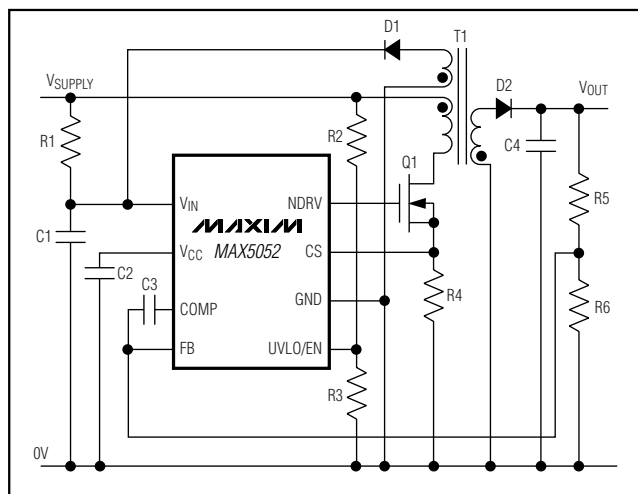
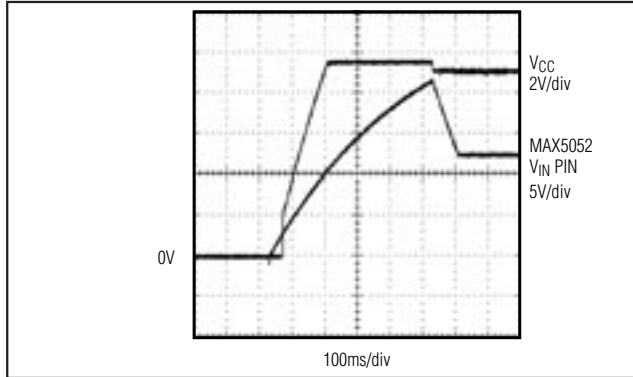

Figure 1. Nonisolated Power Supply with Programmable Input-Supply Start Voltage
Figure 2.  $V_{IN}$  and  $V_{CC}$  During Startup when Using the MAX5052 in Bootstrapped Mode (Figure 1)
**Note 3:** The MAX5052 is intended for use in universal input power supplies. The internal clamp circuit is used to prevent the bootstrap capacitor (C1 in Figure 1) from charging to a voltage beyond the absolute maximum rating of the device when EN/UVLO is low. The maximum current to  $V_{IN}$  (hence to clamp) when UVLO is low (device in shutdown) must be externally limited to 2mA, max. Clamp currents higher than 2mA may result in clamp voltage higher than 30V, thus exceeding the absolute maximum rating for  $V_{IN}$ . For the MAX5053, do not exceed the 24V maximum operating voltage of the device.
Power supplies designed with the MAX5052 use a high-value startup resistor, R1, that charges a reservoir capacitor, C1 (see Figure 1). During this initial period, while the voltage is less than the internal bootstrap UVLO threshold, the device typically consumes only 45μA of quiescent current. This low startup current and the large bootstrap UVLO hysteresis helps to minimize
Use this UVLO function to program the input-supply start voltage. For example, a reasonable start voltage for a 36V to 72V telecom range might be set at 34V. Calculate the divider resistor values, R2 and R3 (see Figure 1) by using the following formulas:
Normally  $V_{IN}$  is derived from a tertiary winding of the transformer. However, at startup there is no energy delivered through the transformer, hence, a special bootstrap sequence is required. Figure 2 shows the voltages on  $V_{IN}$  and  $V_{CC}$  during startup. Initially, both  $V_{IN}$  and  $V_{CC}$  are 0V. After the line voltage is applied, C1 charges through the startup resistor, R1, to an intermediate voltage. At this point, the internal regulator begins charging C2 (see Figure 1). The MAX5052 uses only 45μA of the current supplied by R1, and the remaining input current charges C1 and C2. The charging of C2 stops when the  $V_{CC}$  voltage reaches approximately 9.5V, while the voltage across C1 continues rising until it reaches the wake-up level of 21.6V. Once  $V_{IN}$  exceeds the bootstrap UVLO threshold, NDRV begins switching the MOSFET and transfers energy to the secondary and tertiary outputs. If the voltage on the tertiary output builds to higher than 9.9V (the bootstrap UVLO lower threshold), then startup has been accomplished and sustained operation commences.
The  $V_{IN}$  bypass capacitor,  $C1$ , supplies current immediately after wake up (see Figure 1). The size of  $C1$  and the connection configuration of the tertiary winding determine the number of cycles available for startup. Large values of  $C1$  increase the startup time but also supply gate charge for more cycles during initial start-up. If the value of  $C1$  is too small,  $V_{IN}$  drops below 9.9V because NDRV does not have enough time to switch and build up sufficient voltage across the tertiary output which powers the device. The device goes back into UVLO and does not start. Use a low-leakage capacitor for  $C1$  and  $C2$ .
The above startup method is applicable to a circuit similar to the one shown in Figure 1. In this circuit, the tertiary winding has the same phase as the output windings. Thus, the voltage on the tertiary winding at any given time is proportional to the output voltage and goes through the same soft-start period as the output voltage. The minimum discharge voltage of  $C1$  from 22V to 10V must be greater than the soft-start time of 60ms.
The MAX5052/MAX5053 include an internal error amplifier that can be used to regulate the output voltage in the case of a nonisolated power supply (see Figure 1) Calculate the output voltage using the following equation: